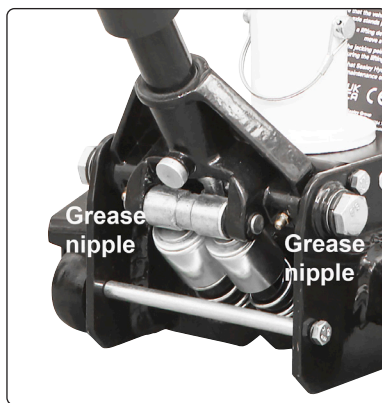

fig.6
7.1.2. Grease points: front wheels and handle pivot see fig.6.